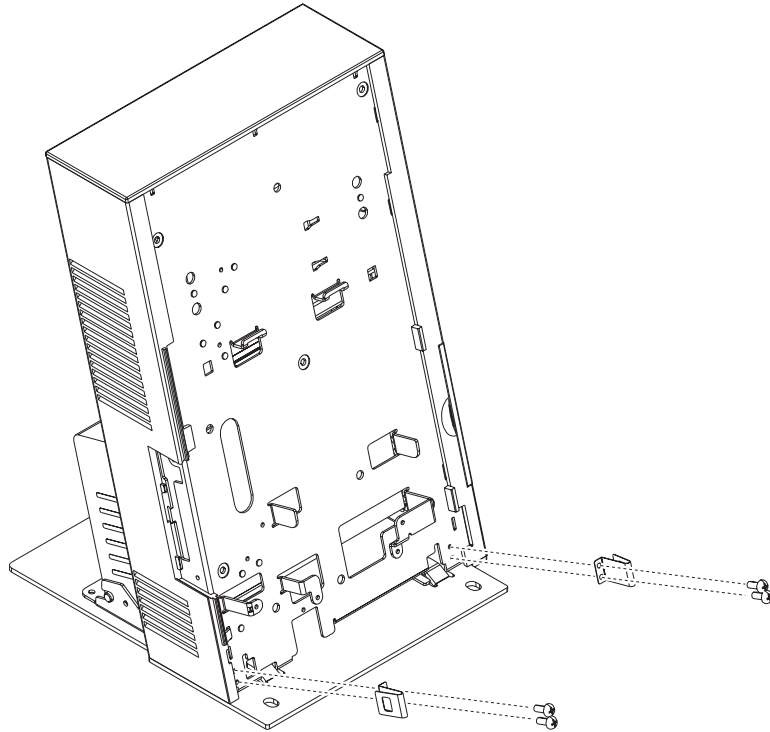

Figure 17. Removing HDD cover clips
3. For each clip, remove the two screws. See Figure 17